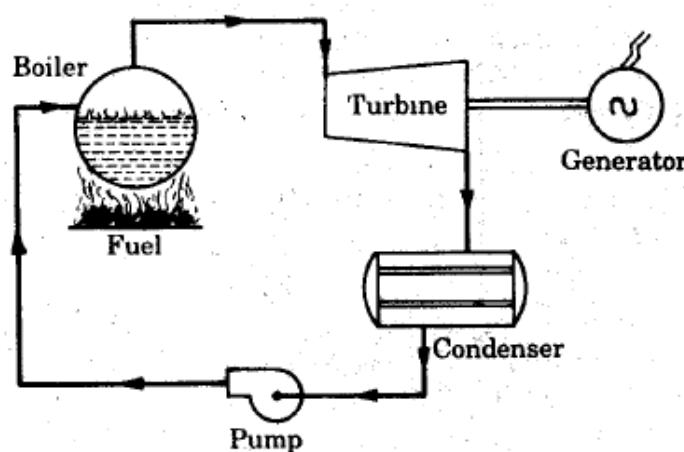

Figure 1 : External Combustion Engine
- External combustion engines are those in which combustion takes place outside the engine. For example, in steam engine or steam turbine the heat generated due to combustion of fuel and it is employed to generate high pressure steam, which is used as working fluid in a reciprocating engine or turbine, see figure 1.